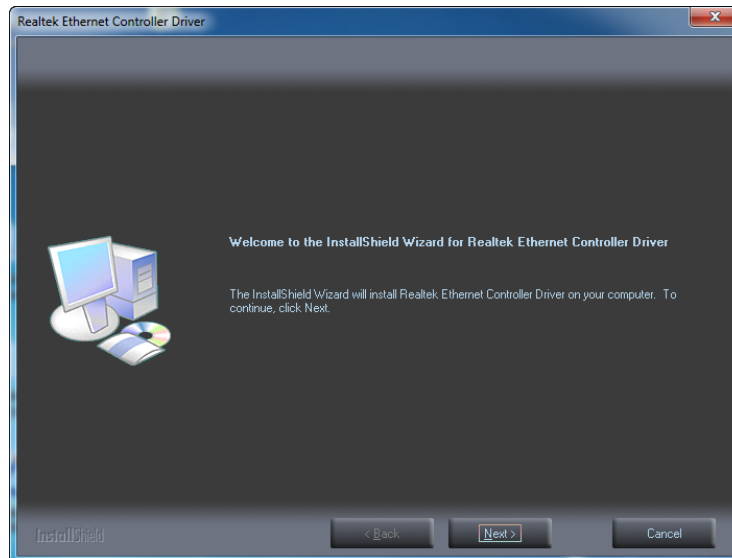

Figure 8-26: LAN Driver Welcome Screen
Step 4: The **Welcome** screen in **Figure 8-26** appears.